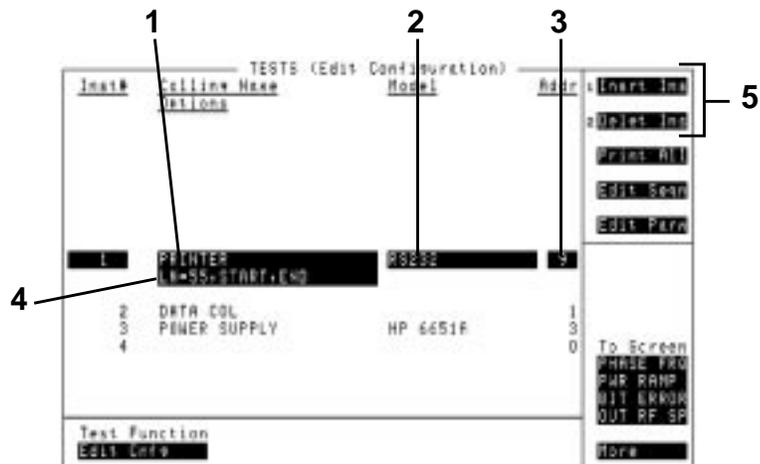

Figure 8-17
- 1 Select the front-panel **TESTS** key, and then the **Test Function Edit Cnfg.** A configuration screen similar to that shown in Figure 8-17 on page 8-37 appears.
- 2 Select the **Calling Name** field and enter the instrument's name in upper-case letters. For example, **PRINTER, POWER SUPPLY, DATA COLLECTION**, and so forth. Refer to item (1) in Figure 8-17 on page 8-37.
- 3 Select the **Model** field and enter the instrument's model number. There is no specific syntax for entering model numbers into this field. Refer to item (2) in Figure 8-17 on page 8-37.
- 4 Select the **Addr** (address) field and turn the knob to enter the last two digits of the instrument's GPIB address. Refer to item (3) in Figure 8-17 on page 8-37. (The RS-232 address must be 9, and the Data Collection address must be 1.)
- 5 Select the **Options** field (refer to item (4) in Figure 8-17 on page 8-37) and enter the instrument's option number(s) if any. This field may be left blank, or otherwise may include other calling name options, for example:
- 6 Press the **Insrt Ins** field or **Delet Ins** field as needed or turn the knob to insert or delete as many instruments as needed. Refer to item (5) in Figure 8-17 on page 8-37.